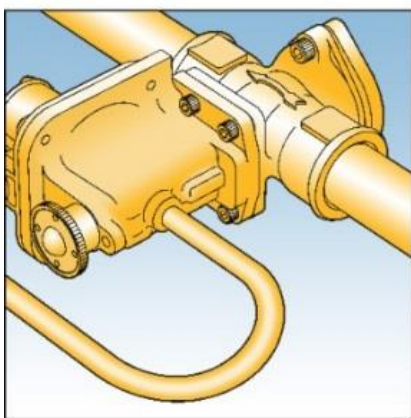

Fig. 2
8. If external impulsed unit, connect impulse pipe as per national standards. See Fig. 2.